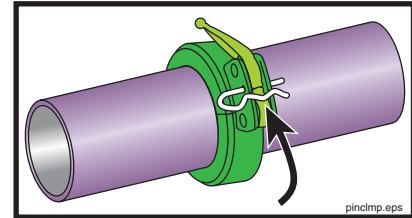

Figure 34
12.3 **WARNING** Pins should be used on all delivery system clamps. Clamps that will hang over workers, and clamps used on system that will be dragged shall be pinned (Figure 34).